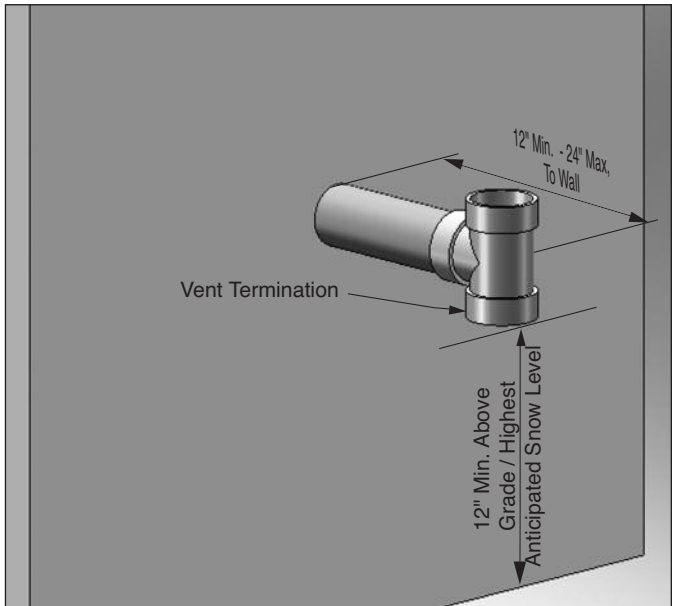
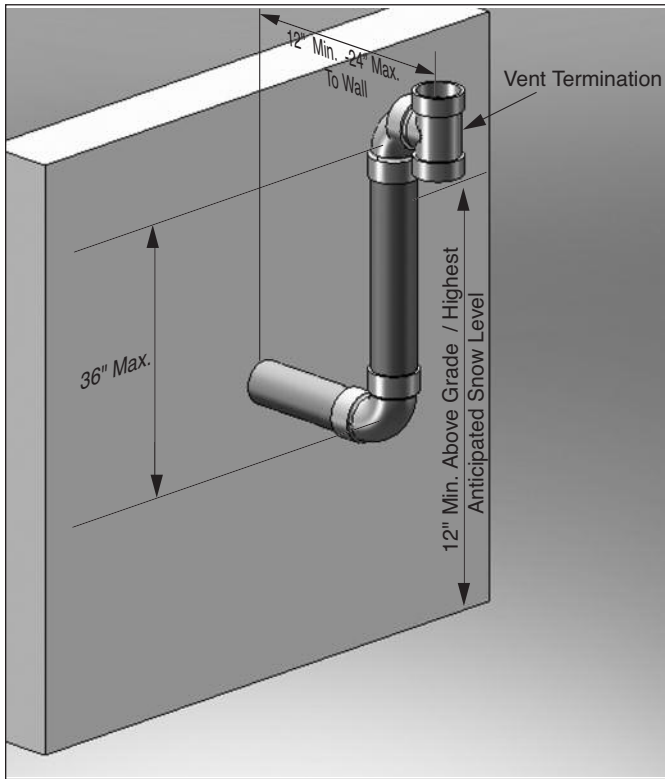

Fig. 27: Category IV - Sidewall Termination of Vent Pipe with Tee Termination
Fig. 30: Category IV - Sidewall Snorkel Termination of Vent Pipe with Tee Termination
- Using a tee as shown in Fig. 27 page 26 or Fig. 30 page 27 .